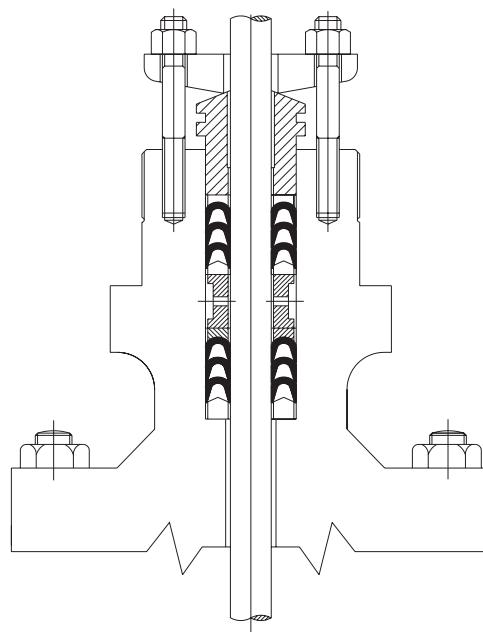

FIG.3
**For Packing Arrangement, please refer to Fig. 3.**